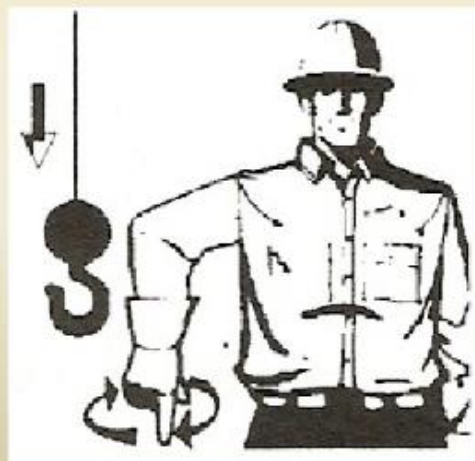

Figure 2 Lower.
1. With your forearm extended downward and your forefinger pointing down, move your hand in small horizontal circles (Figure 2).